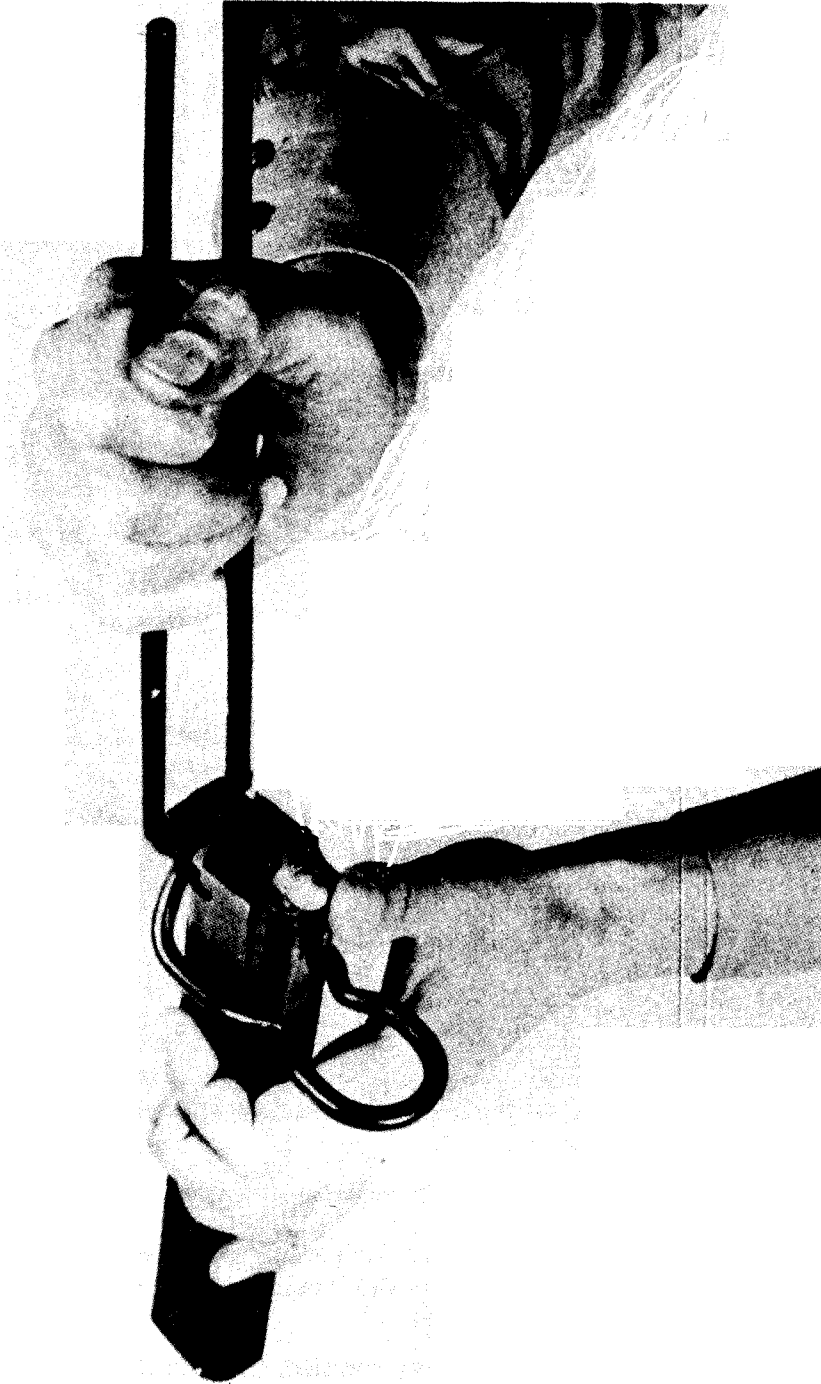

Figure 28. Use of the stock as a hand loader.
b. To use the stock as the hand loader (fig 28), place the butt of the stock over the magazine and use the same procedure as with the magazine loader.